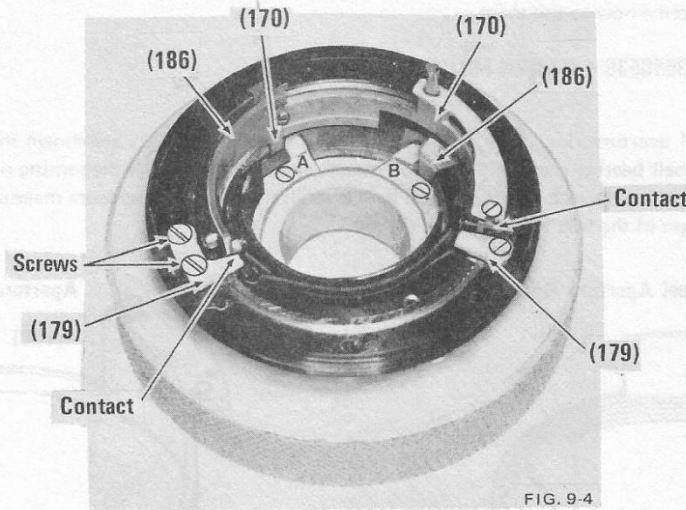

FIG. 9-4
The tool consists of two principle parts: A knurled outer ring with position tab and an inner ring with notch to engage the locating pin on the lens mount. Fig. 9-4.
- a) For correct adjustment, the front projection on the aperture signal ring must rest against stop "A" of the tool. Fig. 9-4.
- b) For correct adjustment, the front projection of the automatic/manual aperture ring must rest against stop "B" of the tool. Fig. 9-4.
- c) Adjust positions of stop plates (179) on the mount, so that they just make contact with the rear projections on the two rings when the front projections are against the stop plates of the tool as described in steps a) and b). Fig. 9-4.